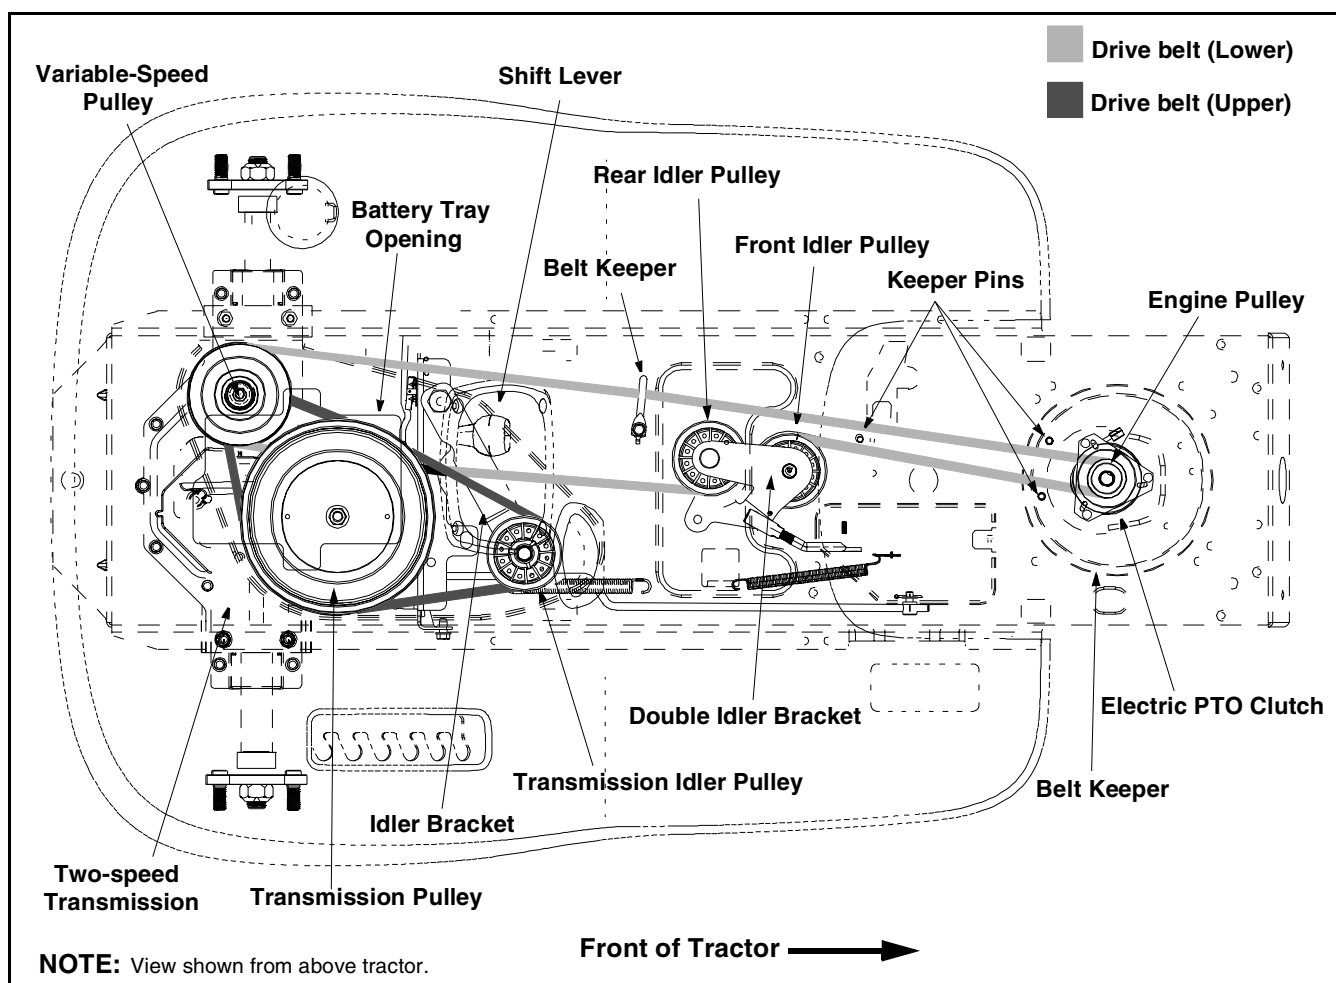

Figure 17
- Locate the transmission idler pulley on the upper drive belt by looking through the battery tray opening. See Figure 17.
- Reroute the new upper drive belt as shown in Figure 17.
- Locate the variable-speed pulley through the battery tray opening. See Figure 17.
- Remove the rear idler pulley from the double-idler bracket while unrouting the belt from around both the rear and the front idler pulley. Refer to Figure 17.
- Remove the drive belt by feeding it from both ends toward the front idler pulley on the double-idler bracket. See Figure 17.
- Reroute the new belt around the pulleys, belt keepers and keeper pins EXACTLY as the old one was routed. Refer to Figure 17.